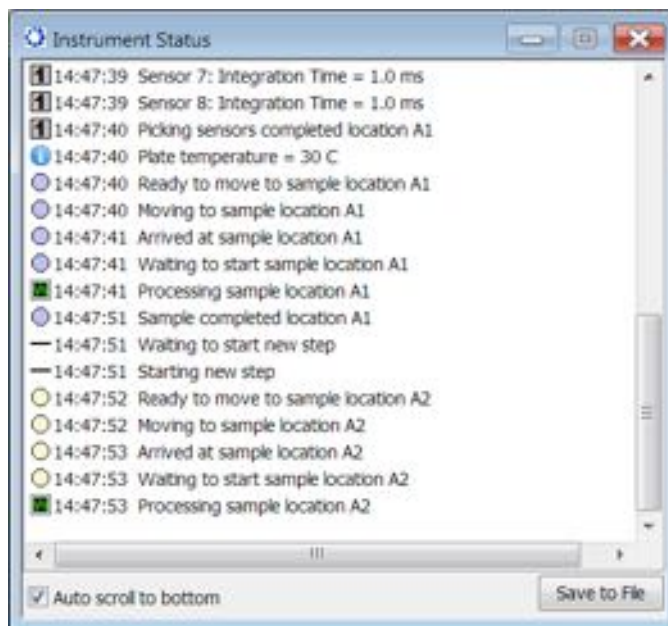

Figure 10-90: Instrument Status Log
4. Optional: Click **View > Instrument Status** to view the log file (see Figure 10-90).